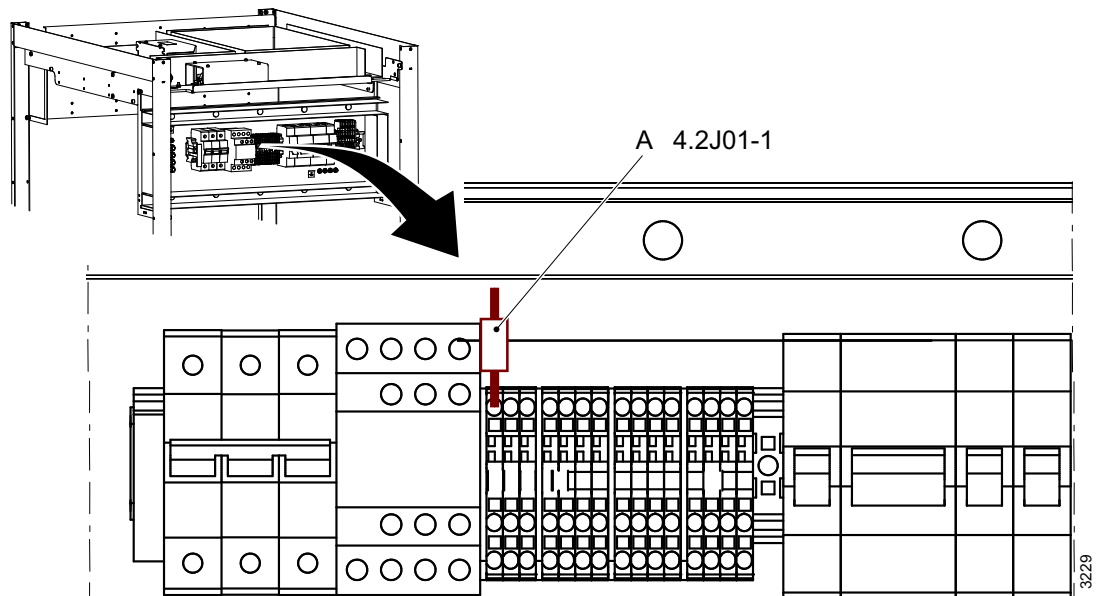

Fig. 4-93
Make sure the wire (A) is connected according to figure **Fig. 4-93**.